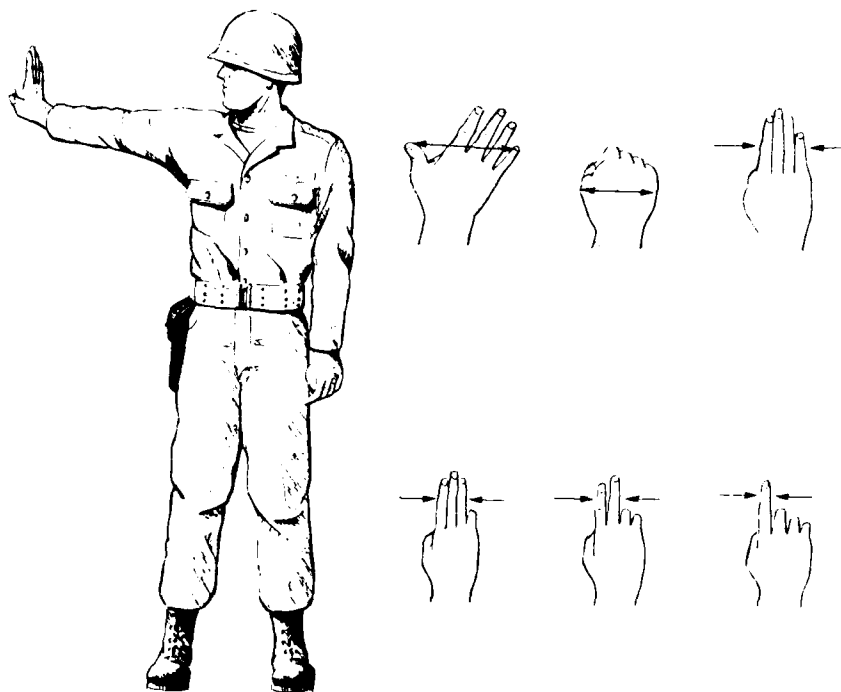

Figure 4-70.—Measurement of angles by hand and fingers.
1. Extend your arm full length with the palm up. Point the appropriate number of fingers, beginning with the index finger, vertically to the reference point. (See fig. 4-70.)